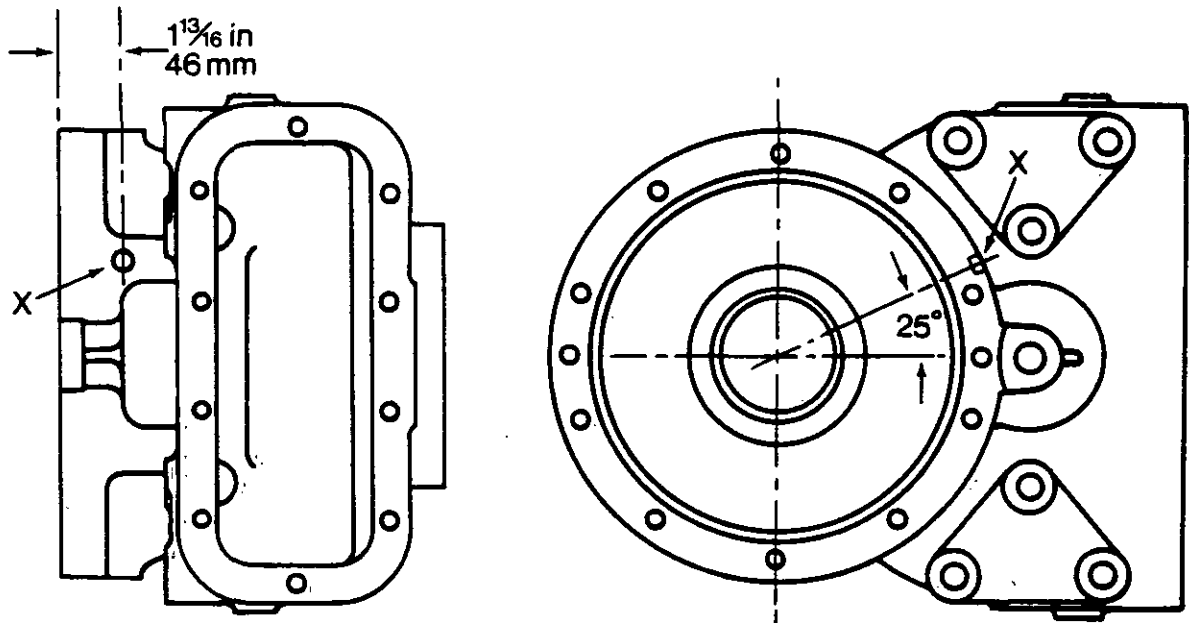

FIGURE 6. POSITION OF DRAIN HOLES
4. Make a hole in the bottom of the reduction case as shown in Fig. 6.